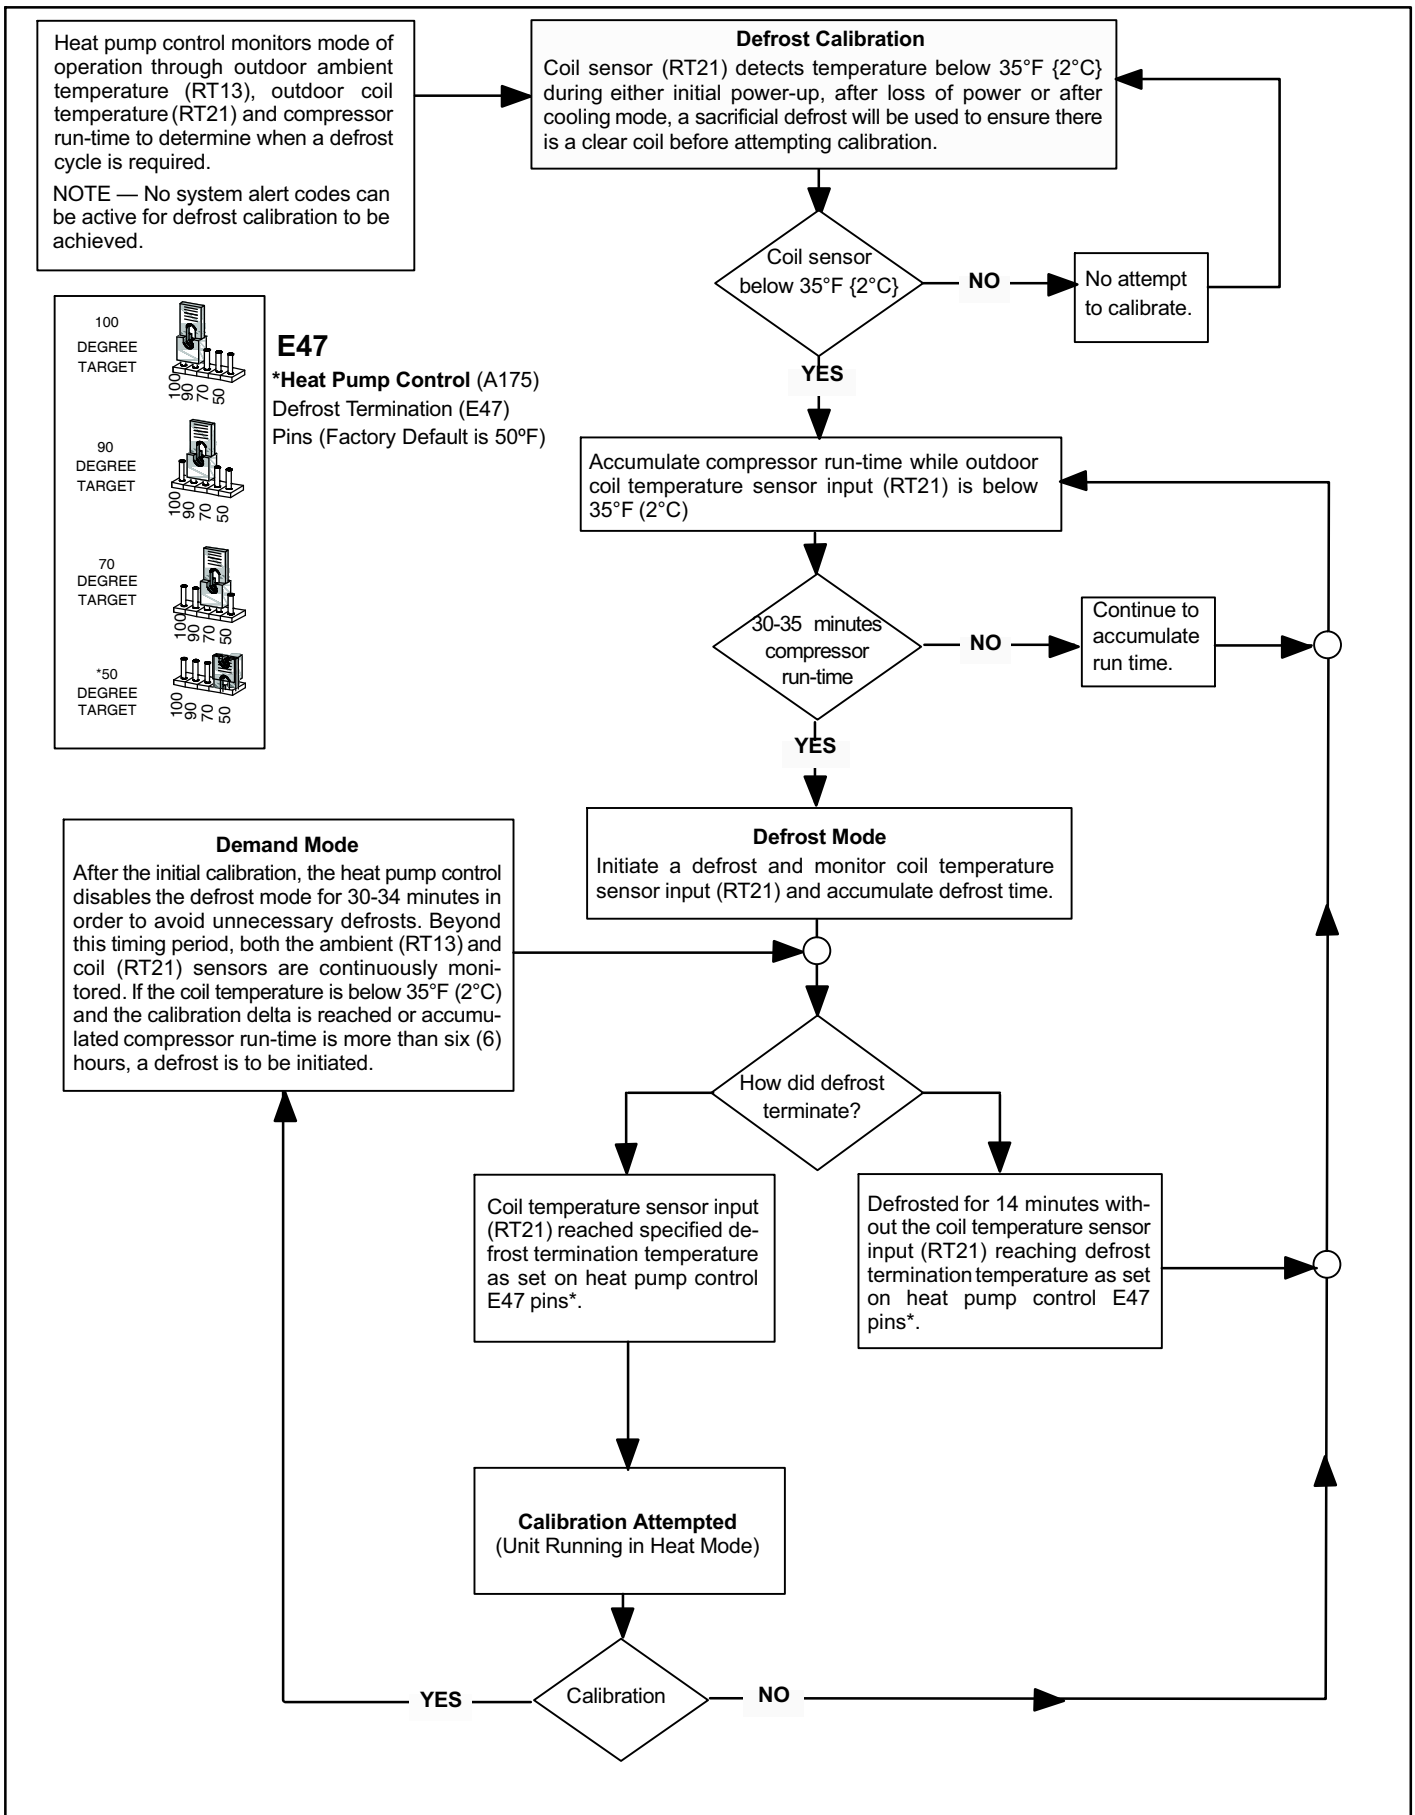

Figure 26. Defrost Calibration Sequence of Operations
The heat pump control (A175) measures differential temperatures to detect when the system is performing poorly because of ice build-up on the outdoor coil. The controller self-calibrates (see figure 26) when the defrost system starts and after each system defrost cycle. The heat pump control monitors ambient temperature, outdoor coil temperature, and total run-time to determine when a defrost cycle is required. The coil temperature sensor is designed with a spring clip to allow mounting to the outside coil tubing. The location of the coil sensor is important for proper defrost operation (see figure 1 for location of coil sensor).
- Defrost calibration and operation (see figure 26)
If the temperature jumper is **not installed**, the default termination temperature is **90°F (32°C)**. See figure 26 for on how this settings affects defrost calibration and defrost modes.